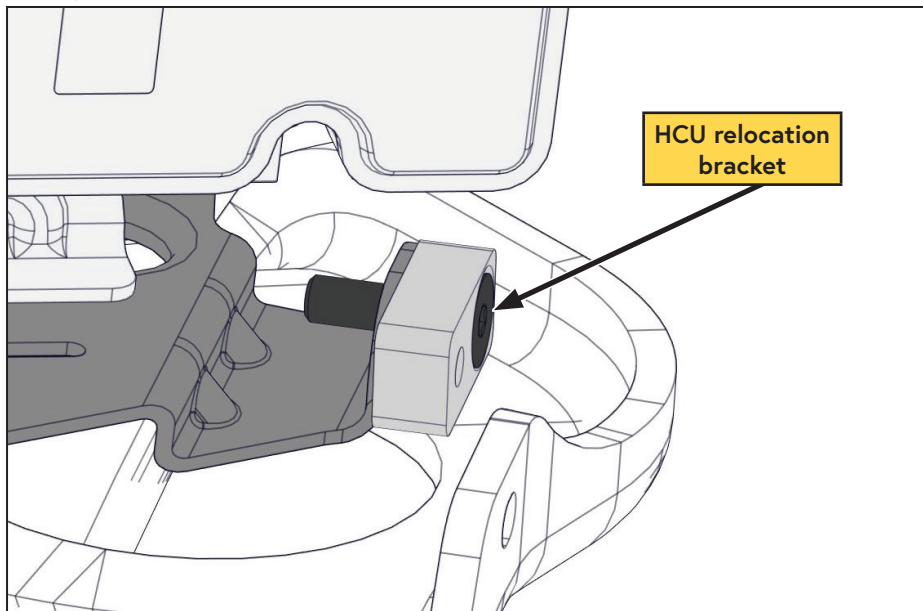

Figure 21 — Relocating the HCU
- ☐ Using the supplied flat head fastener, install the HCU relocation bracket (Figure 21).